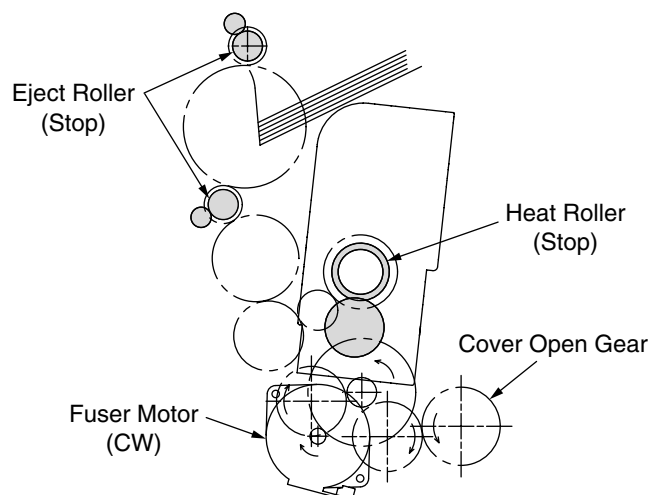

Figure 2-9
1. As indicated in Figure 2-9, when the fuser motor rotates (CW), the cover open gear rotates and then opens the cover of the color drift sensor and density sensor.